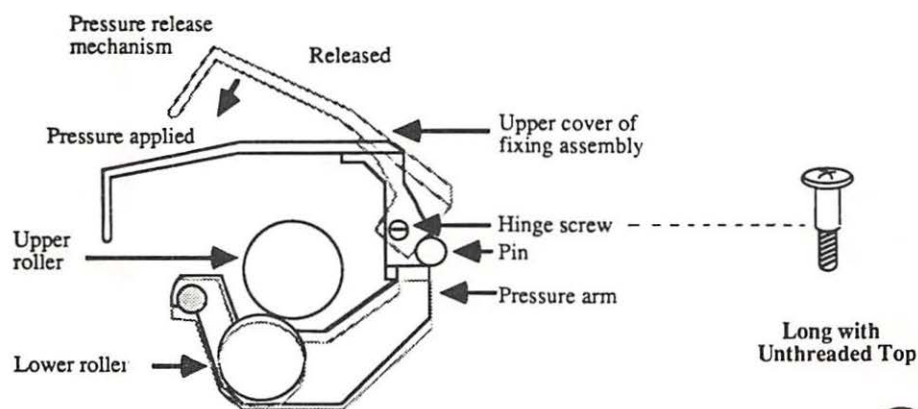

FIGURE 2-30
6. Replace the green cover and its two short black hinge-screws (see Figure 2-30). Check for free motion of the cover and loosen screws if necessary.